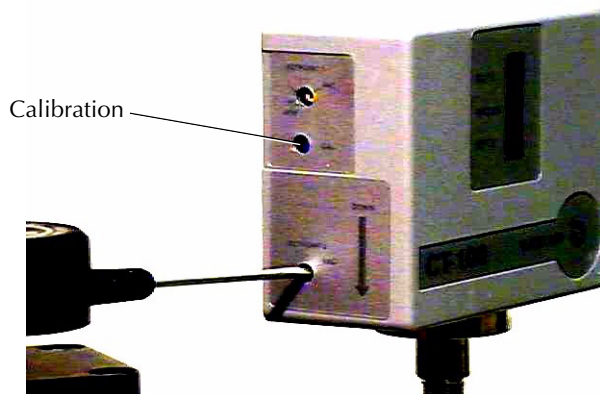

Figure 8 Adjusting the Calibration Potentiometer
6. Adjust the **CAL** screwdriver potentiometer as shown in Figure 8 until the voltmeter reads 8.255 VDC.
8. Adjust the **CAL** screwdriver potentiometer as shown in Figure 8 until the voltmeter reads 1.000 volts.